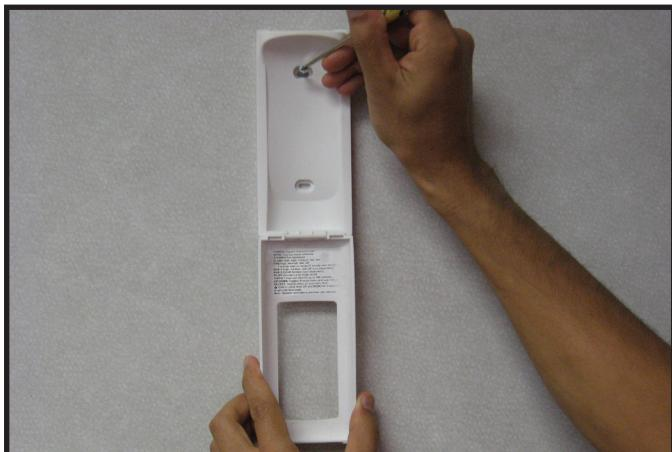

Figure 2. Mounting Remote Control Housing
- 3. Secure the remote control housing on a flat wall surface using the two screws and wall anchors provided. See Figure 2.